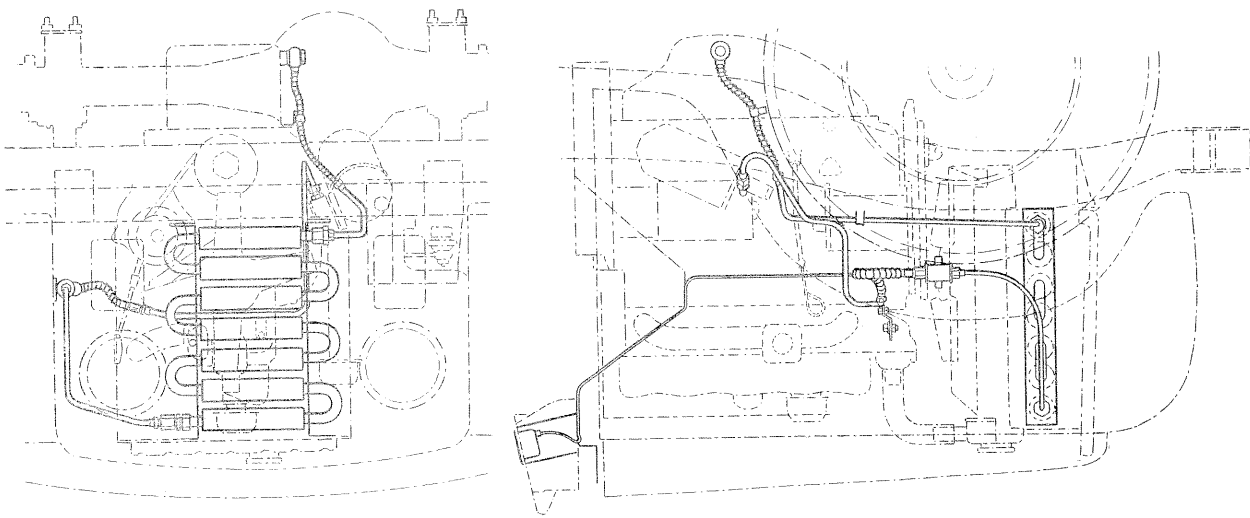

Fig. T-59—Installation of oil cooler—2 1/2 litre Petrol, Diesel models
27. Fit the union to the oil cooler lower R.H. side and fit the right-angled end of the oil return pipe to the union and secure the other end of the flexible pipe already fitted to the sump. Figs. T-59 and T-60. Secure the non-flexible pipe to the battery carrier (R.H. on Diesel), using a clip, screw, nut and spring washer.